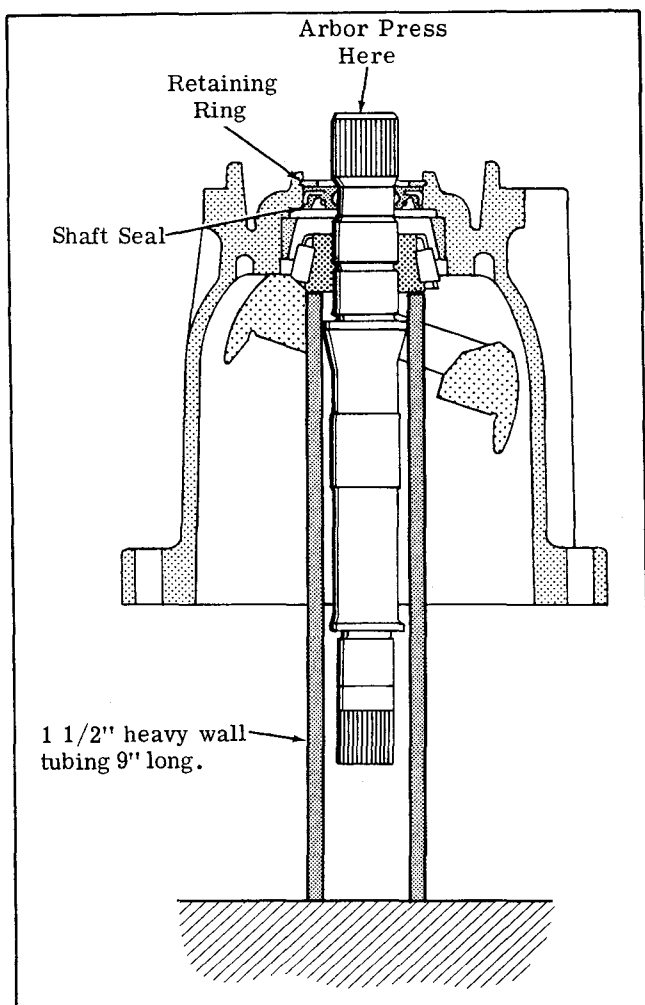

Figure 13. Front Bearing Removal
The following steps concerning removal of the yoke and front shaft bearing may not be required. Inspect the yoke for excessive wear, scratches and pickup. If the yoke is not defective, check the front bearing for scuffing, peeling or spalling of the rollers and/or roughness when turned in the race. DO NOT disassemble the yoke pintle bearing if the yoke and shaft bearing are functional. If either the yoke or the front shaft bearing were defective, perform the following steps in the order indicated. See Figure 6 for special removal tool dimensions and refer to Figure 13 during shaft removal. To replace only the shaft seal, perform steps E. 1. and E. 4.
1. Remove drive shaft (24) as follows:
- a. Install a nine inch piece of 1-1/2" heavy wall tubing over drive shaft (24) within the housing. The end of the tubing will rest against the inner race of tapered roller bearing (38) and extend out beyond the end of the pump housing.
- b. Place the complete unit with tubing into an arbor press with drive spline up. See Figure 13.